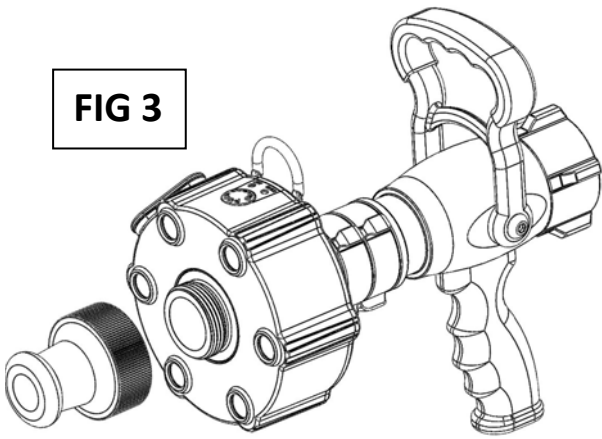

FIG 3
C) INSTALL THE KNOBLITE® STREAM SHAPER, YOUR COMBINATION OR OTHER TIP TO THE KNOBLITE® 2500. THE KNOBLITE® STREAM SHAPER IS DESIGNED TO TIGHTEN WITH A GLOVED HAND (FIG 3).